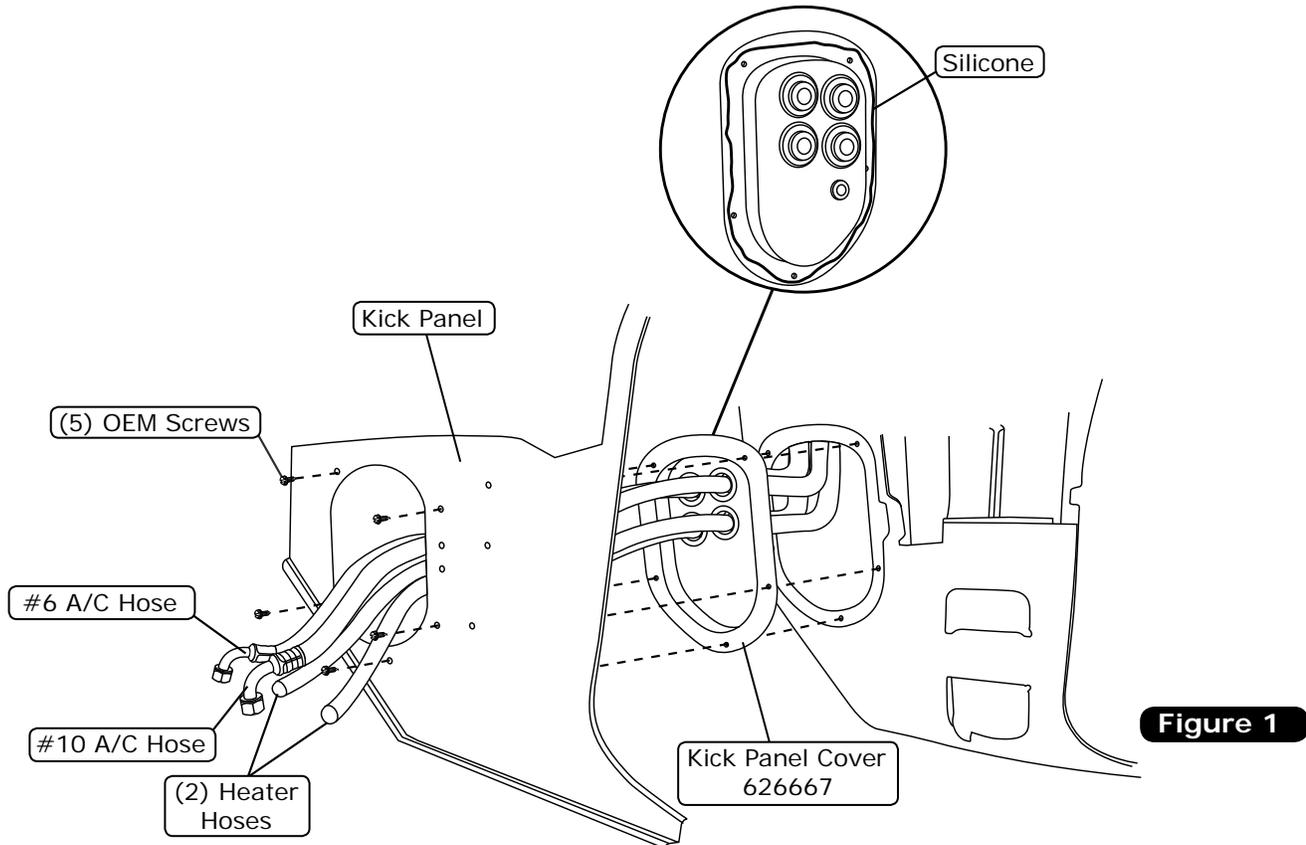

Figure 1
2. Apply 1/4" bead of silicone around the back side of the kick panel cover as shown in Figure 1, below.
3. Secure the kick panel cover and kick panel using OEM screws as shown in Figure 1, below.